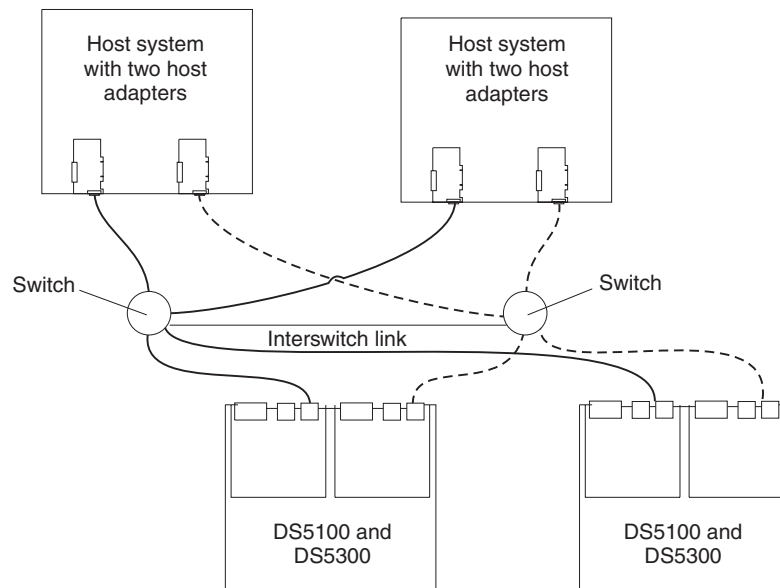

Figure 92. Example of two storage subsystems in a single SAN fabric environment
- Dual SAN fabric configuration, with an additional DS5100 or DS5300 attached, as shown in Figure 92 on page 141
In Figure 92, the fibre channel switches are connected together.